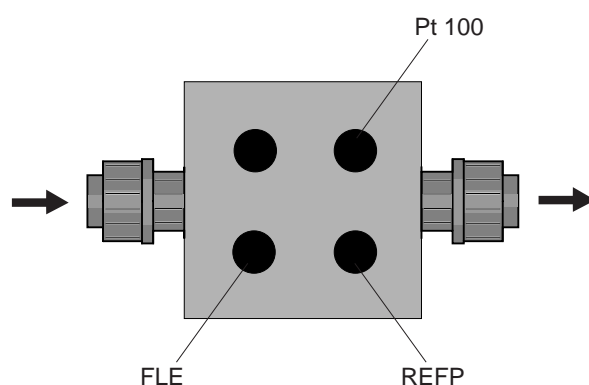

Fig. 4
- ▶ Remove the three plugs from the DLG in-line probe housing (see Fig. 4):